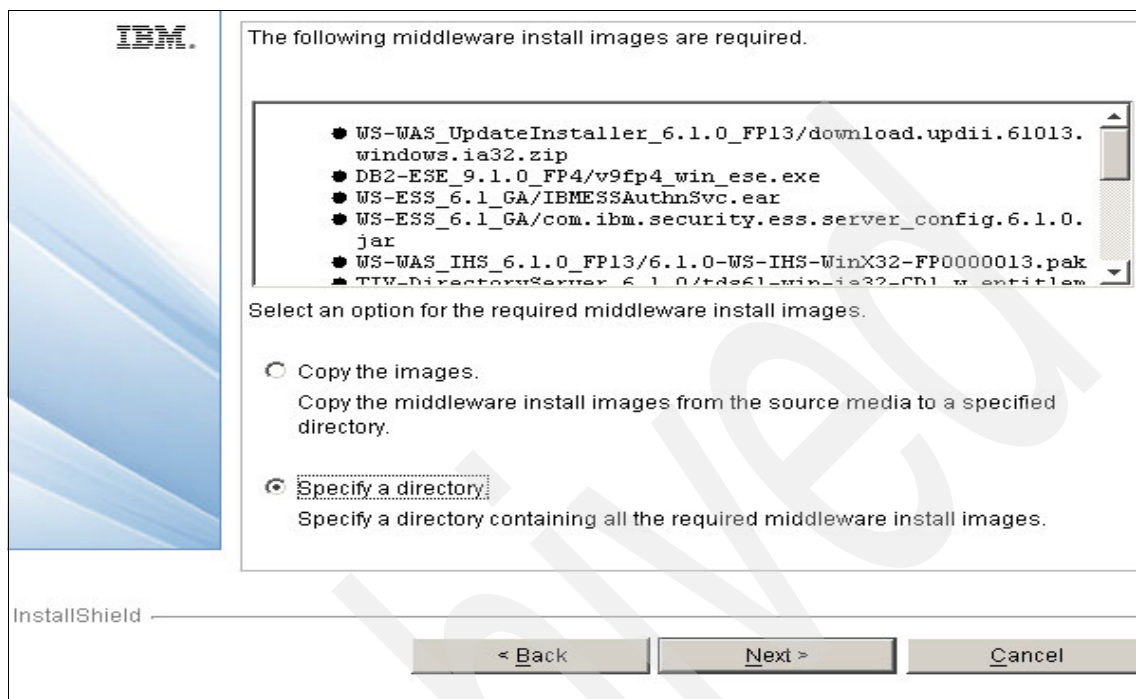

Figure 5-5 Middleware install image
- Specify a directory containing all the required middleware install images (see Figure 5-5 on page 74). Select this option if you intend to specify a